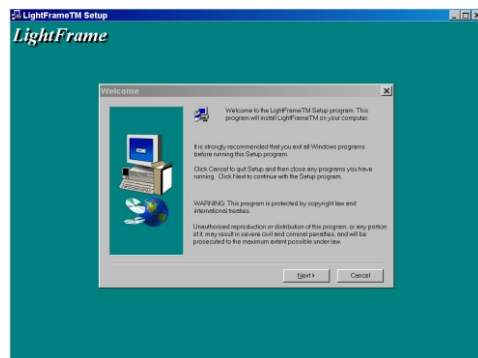

Fig 3
3. Click LightFrame, bring up Fig.3